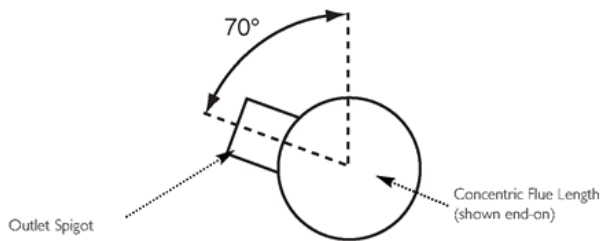

Fig. 21s
23. When under balconies or projections it is permissible to rotate the concentric flue length up to 70°, clockwise or anticlockwise (Fig. 21s), if there is insufficient space to connect vertically.